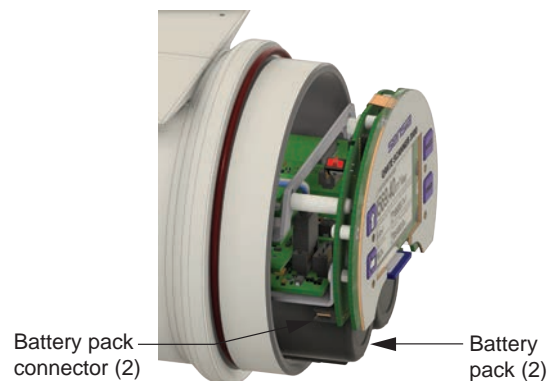

Figure 3.3—Lithium battery pack connectors (shown with enclosure removed from view)
3. Locate the two receptacles on the back of the display board assembly (Figure 3.3).